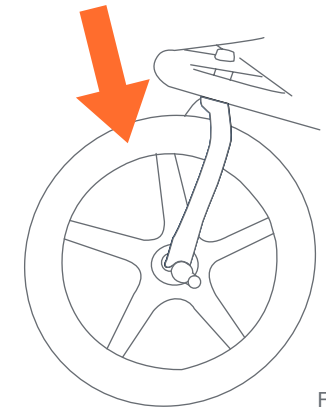

Fig. 22
22) • Lift the front wheel off of the ground and sharply strike the top of the tire (Fig. 22). The wheel should not be loose or come off.